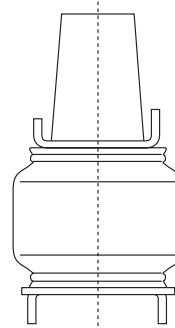

fig. 9
6. Align the upper bracket forward or back, ensuring that the upper and lower brackets are lined up evenly with the bellows (Fig. 9).
1. In a similar fashion to the upper bracket alignment, carefully move the bottom bracket inward and outward so as to align it to the bellows and upper bracket (Fig. 9).